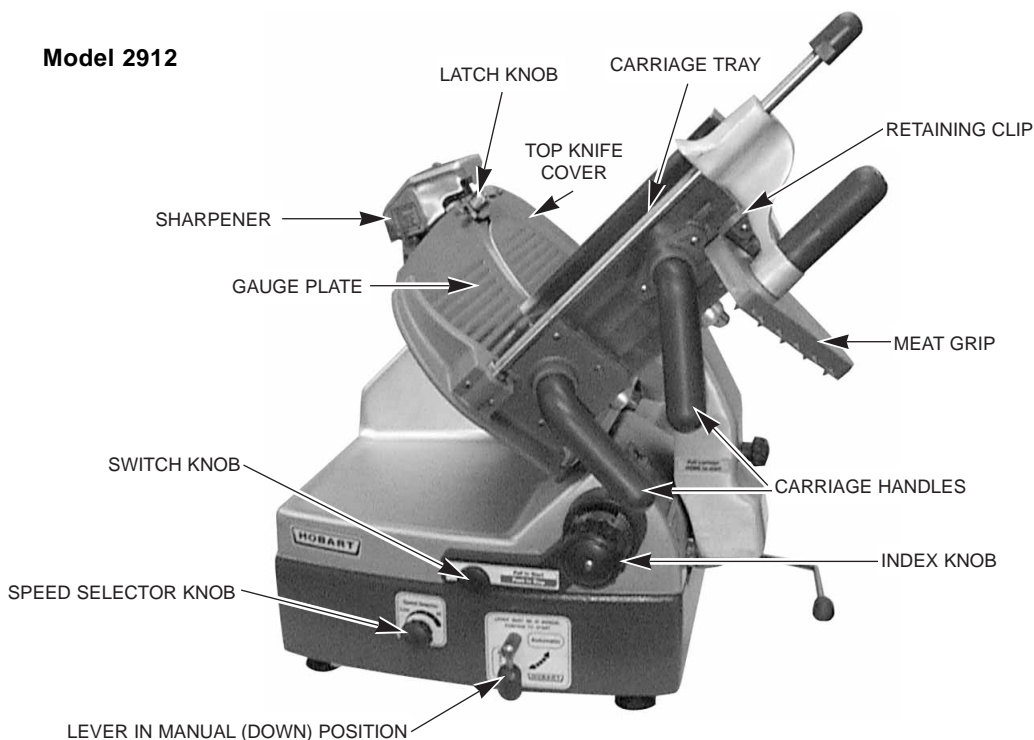

Fig. 3
With the Gauge Plate fully closed, pull the Carriage all the way toward you until it reaches its stop. With the Meat Grip out of the way, place the product to be sliced on the Carriage Tray. Adjust the fence by loosening the thumb screw and sliding the fence so that it is close to the product but not pushing against it. Tighten the thumb screw. Set the Meat Grip against the product. Always make sure the Lever (Fig. 3) is in the Manual position (down) before starting the slicer.
If the Meat Grip is not needed, it may be stored out of the way by sliding it to the top of its travel, rotating it under the Carriage Tray, and allowing it to rest in the Retaining Clip (Fig. 3).
Adjust the Gauge Plate by turning the Index Knob (Fig. 3) to obtain the desired slice thickness. The numbers on the Index Knob do not indicate actual measurements but may be used for reference to duplicate slice thickness. Turn the slicer on by pulling the Switch Knob (Fig. 3) forward until it starts and then releasing it. Unless the Gauge Plate is opened before pulling the Switch Knob on, the slicer will not continue to run when the Switch Knob is released.
Use either Carriage Tray Handle (Fig. 3) to push the Carriage back and forth to slice manually.
**To operate the slicer in Automatic mode . . .** Rotate the Speed Selector Knob (Fig. 3) to the desired speed; make sure the Carriage is in HOME position (all the way forward); make sure the Lever (Fig. 3) is on the Manual position (pointing down); turn the slicer on; start the carriage drive unit by rotating the Lever to the Automatic position (up and to the right).